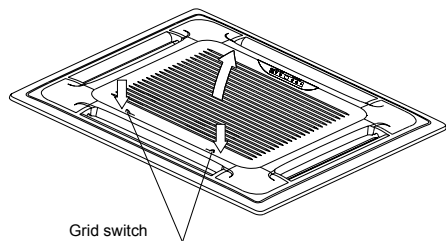

Fig.5-9
- Slide two grill switches toward the middle at the same time, and then pull them up. (Refer to Fig.5-9)